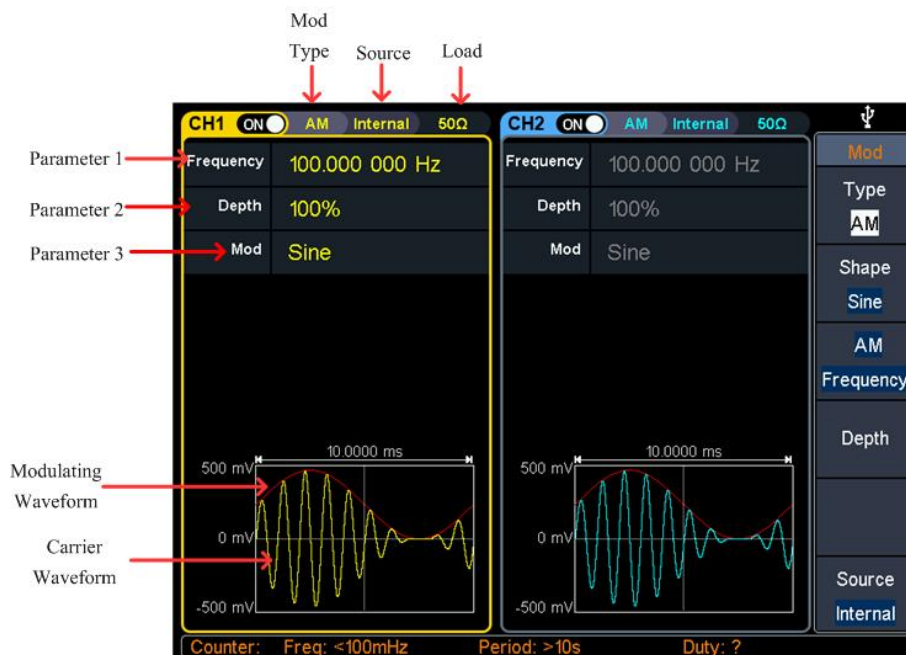

Figure 5- 11: AM user interface
- (1) **Select the sequence number of the harmonic:** Press the **SN** softkey, the **SN** menu item is highlighted. In **Parameter 6** of Figure 5- 10, a blinking cursor appears in the parameter value of SN. Turn the **knob** to change the value directly, or use the **numeric keypad** to input the desired value.
- (2) **Set the phase for the selected SN:** Press the **Phase** softkey, the **Phase** menu item is highlighted. In **Parameter 8** of Figure 5- 10, a blinking cursor appears in the parameter value of Phase. Turn the **knob** to change the value directly, or use the **numeric keypad** to input the desired value and choose the unit.